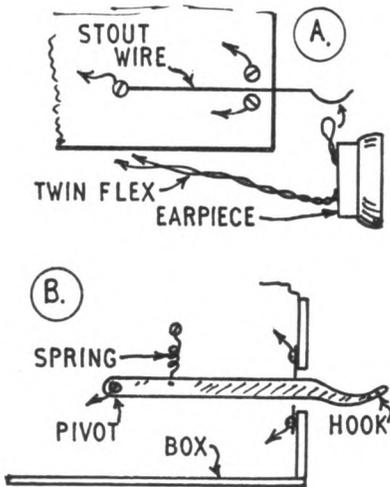
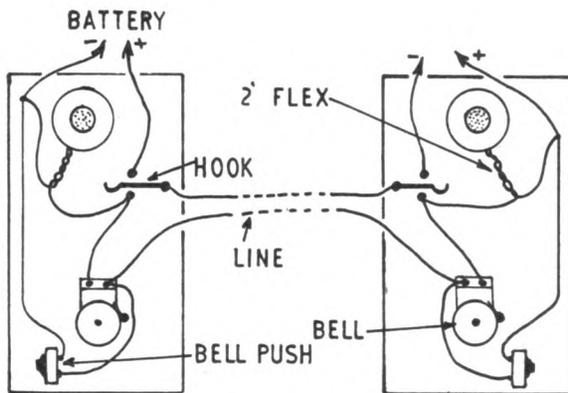

Fig. 3—Receiver hooks
Fig. 4—Complete home telephone circuit
Simple types of receiver hooks for home use are shown in Fig. 3. That shown at (A) is made from a stout springy wire. The earpiece has a loop, and is hung upon the hook. The weight of the earpiece thus keeps the hook down against the lower terminal. When the earpiece is lifted off, the hook springs up and transfers the circuit to the upper terminal. This circuit change can be turned to useful purpose, as will be seen.
Two complete units, for two-way operation, are shown in Fig. 4. Each unit is exactly the same as the other, except that the polarity of one battery is reversed. This is essential. Each unit has a bell or buzzer, and bell-push, for calling the other person. There is also a spring-loaded receiver hook, such as shown in Fig. 3, in each unit, and an earpiece, with flex and loop, as described.